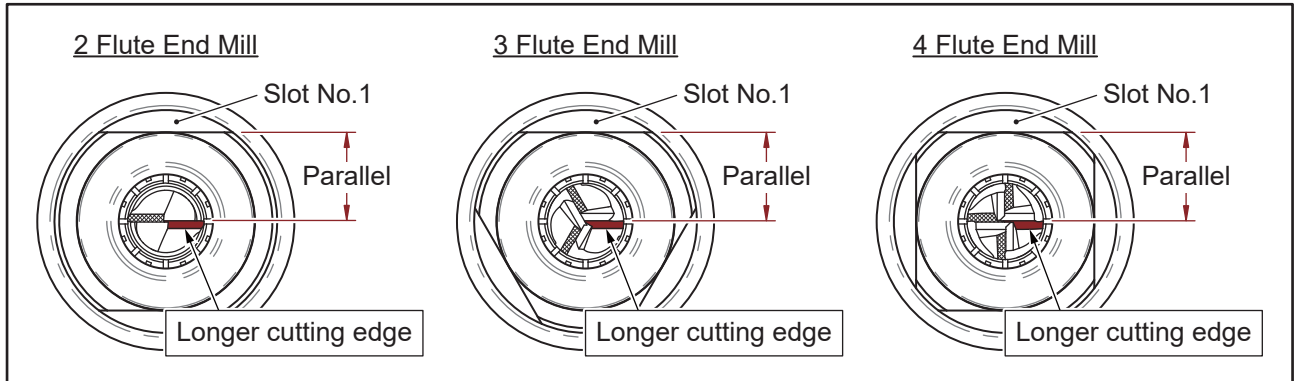
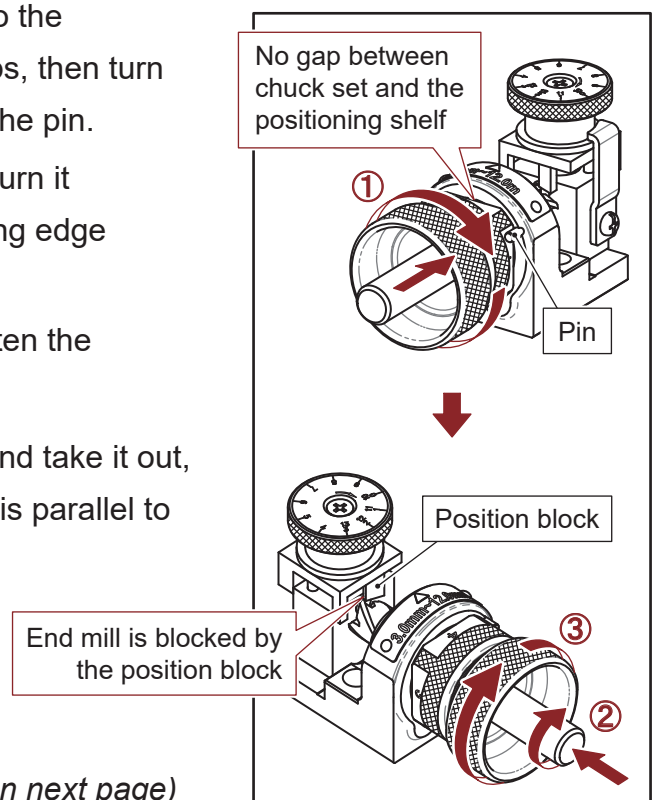

Fig. 7-3
Fig. 8-3
4. Turn the longer cutting edge of end mill to be parallel to the Slot No.1 of the clamping nut. (Fig. 7-3)
3. End mill positioning (Fig. 8-3) :
- ① Align Slot No.1 of the clamping nut to the pin on the positioning shelf, insert the chuck set into the positioning shelf and fit them with no gaps, then turn the chuck set clockwise until it stops by the pin.
- ② Push the end mill to the end and slowly turn it clockwise until the end mill's longer cutting edge stops by the position block.
- ③ Turn the collet holder clockwise and tighten the chuck set to secure end mill.
4. Gently turn the chuck set counterclockwise and take it out, make sure the end mill's longer cutting edge is parallel to the Slot No.1 of clamping nut (See Fig. 7-3).